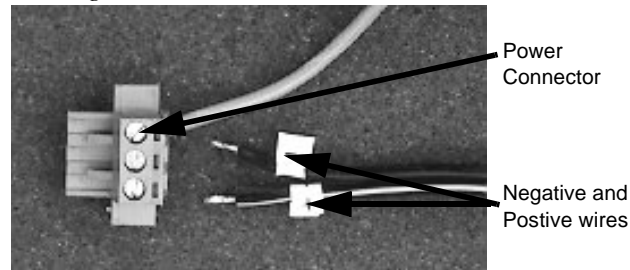

Figure 3-1 Power Connector and Positive/Negative wires
1. Prepare the power source for the unit by sliding the positive and negative wires into the appropriate slots on the power connector. See *Figure 3-1*.